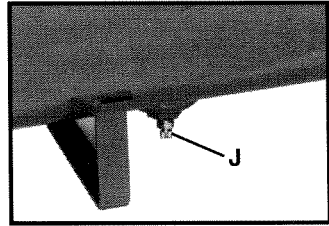

Fig. 4
**Drain Valve (J) Fig. 4:** The drain valve is located at the base of the air tank and is used to drain condensation at the end of each use.